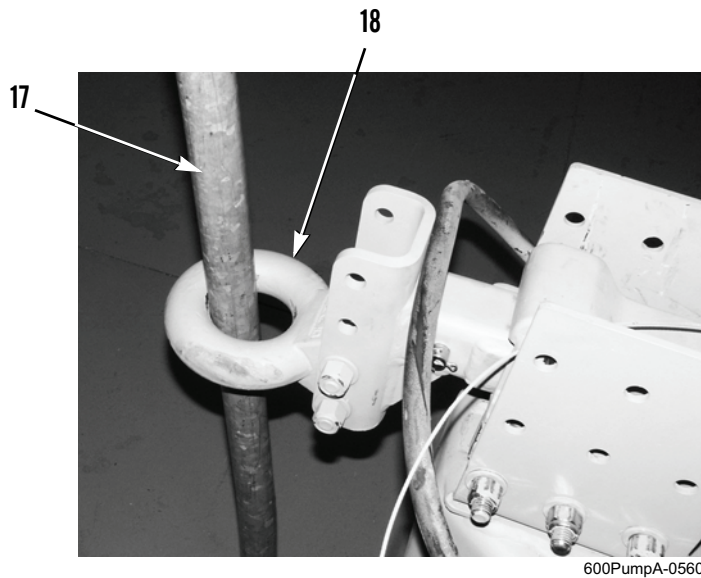

Figure 13. Brake Actuator Extension and Retraction.
3. Use prybar (Figure 13, Item 17) to pull on lunette ring (Figure 13, Item 18) until brake actuator assembly is fully extended.
5. Use prybar (Figure 13, Item 17) to push on lunette ring (Figure 13, Item 18) until brake actuator assembly is fully retracted.